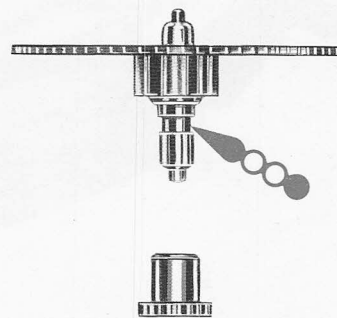

Fig. 9
- For oiling, place a drop of Cuypers No. 3 oil on the large driving wheel arbor, before fitting the cannon pinion, see fig. 9. The pivots are treated with the same oil.